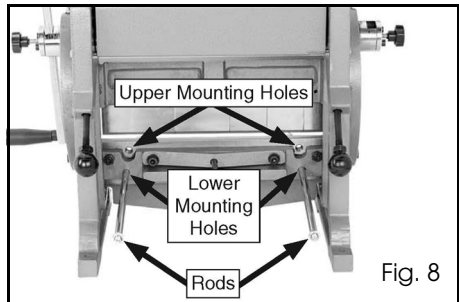

Fig. 8
3. Thread the rods into either the upper or lower mounting holes, as shown in Figure 8. Only hand-tighten the rods.